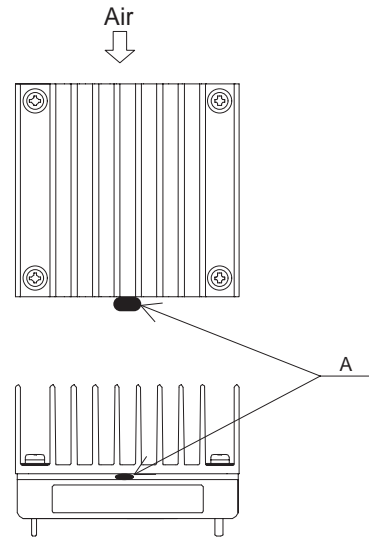

Fig.6.7 Measuring point
■The temperature is measured by aluminum base plate (part A) under the air flow as shown in Fig.6.7.